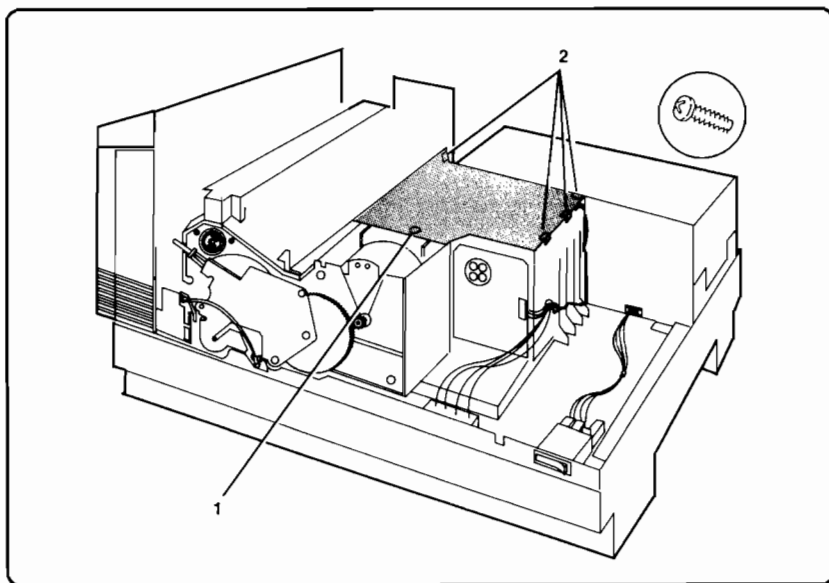

Figure 6-48. Laser Cover/Shutter Assembly Removal
6. Remove the screw (1) securing the Laser Cover (see Figure 6-48, callout 1).
7. Unclamp the (4) clamps securing the Laser Cover and then remove the cover (see Figure 6-48, callout 2).
6. Remove the Laser Cover/Shutter Assembly (see Figure 6-48).